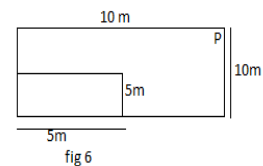

fig 6
13. Find the vertical stress at 5m below point P due to UDL hatched area of 300 KN/m² intensity as shown in **fig 6**. (2.37 KN/m²) (2014 Fall)